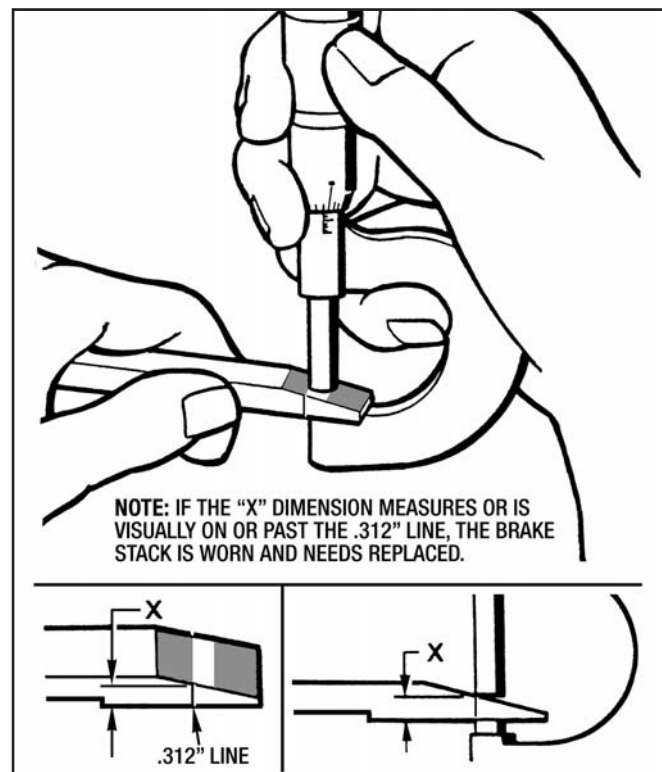

Figure 6.4 - Measuring Piston Stroke
7. Measure distance "X" with a micrometer as shown in *Figure 6.4*.